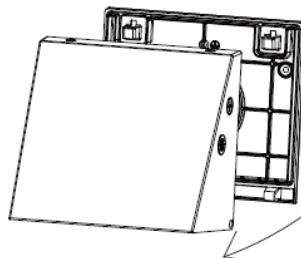

Fig. 1.2
2. Remove the mounting plate from the front cover of the luminaire (Fig. 1.2).